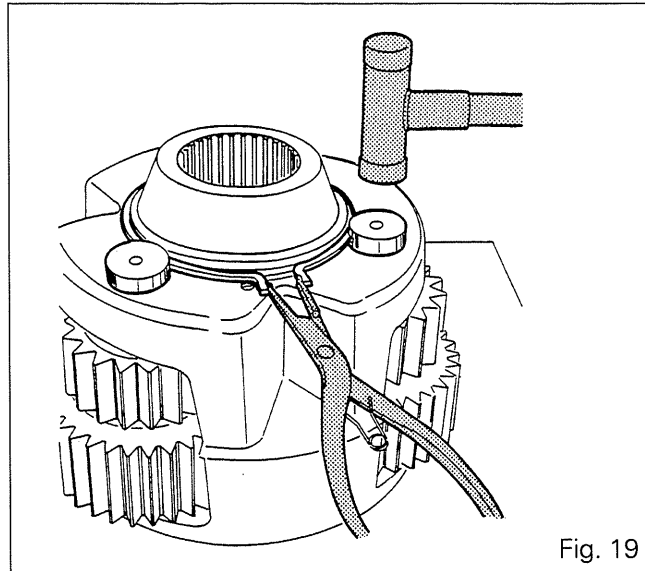

Fig. 19
20. Tap lightly on the three pins to insert the circlip into the planetary carrier groove (Fig. 19).